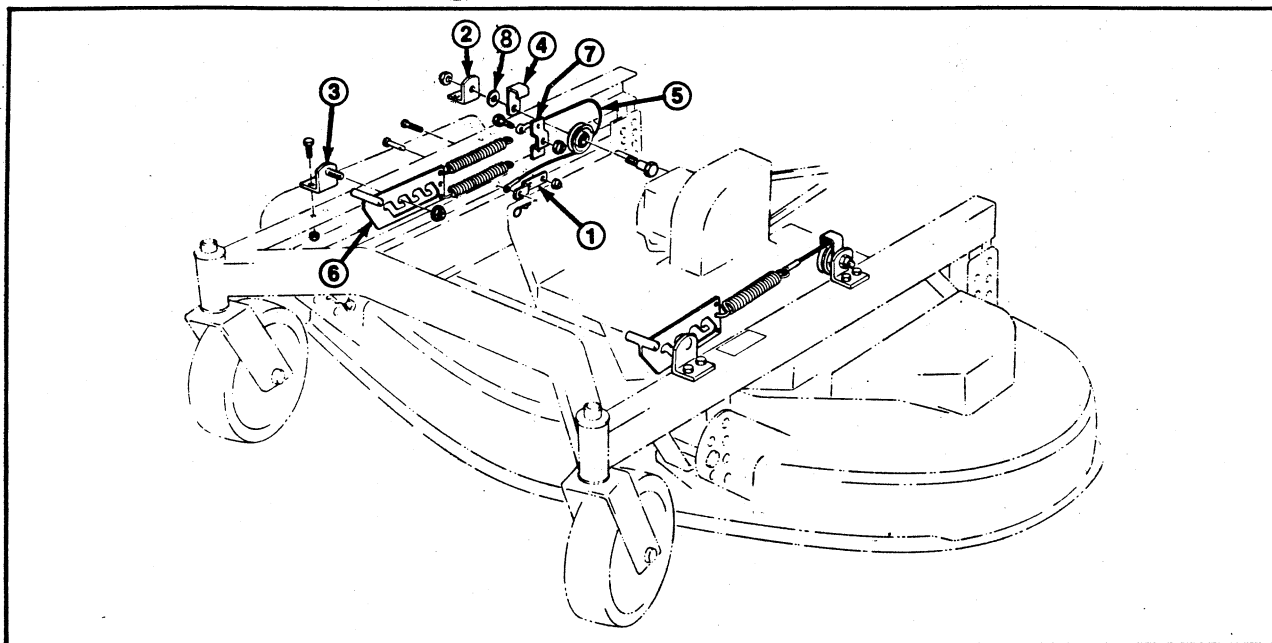

Figure 3
6. Mount a pulley bracket and control adjustment bracket to each side of carrier frame with capscrews and locknuts, positioning them as shown in Figure 3.
7. Loosely secure a cable retainer and pulley assembly to each control adjustment bracket with a shoulder bolt, flat washer and locknut. Route cable around each pulley assembly as shown in Figure 3 and tighten locknut.
9. Hook an extension spring to the other end of cable and to tension adjustment bracket. When installing kit on a cutting unit equipped with a bagging attachment, two springs and a spring bracket must be mounted on right side as shown in Figure 3. Two springs and spring bracket must be mounted on left side of cutting unit when installing kit on 52" Rear Discharge Deck.